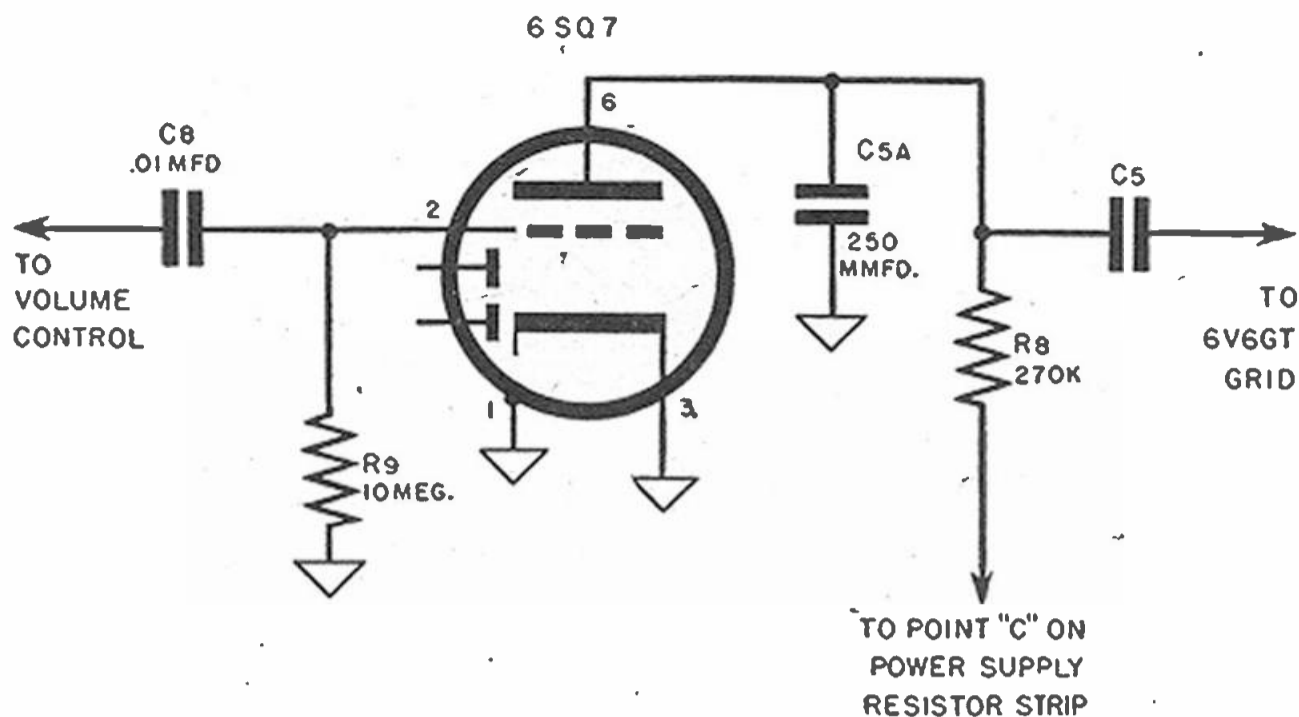

Fig. 2-35. The first A. F. circuit.
d) *First A.F. Circuit.* See Figure 2-35. No special comments are needed here.